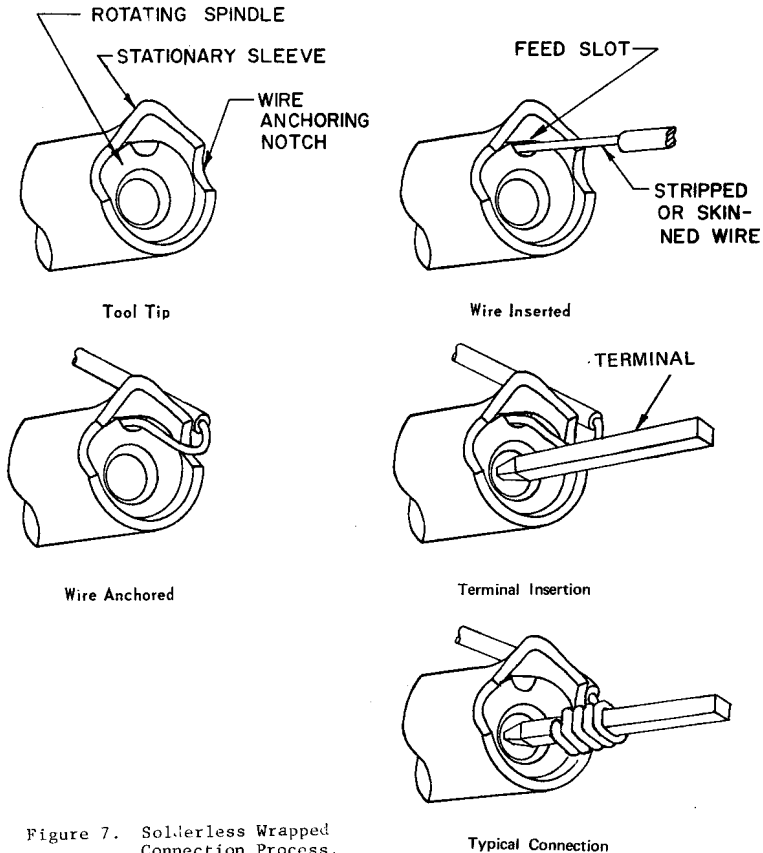

Figure 7. Solderless Wrapped Connection Process.
- a. Insert the skinned portion of the lead into the feed slot of the wrapping bit, care being taken to insure that no bare wire is showing. Bond the insulated portion of the lead into the anchoring notch as illustrated in Figure 7. Push the tool onto the terminal while holding the wire taut in the anchoring notch. Use of the left or right anchoring notch is determined by direction of approach, i.e., a lead dressed to the left of the terminal is placed in the left anchoring notch; if dressed to the right, it is placed in the right anchoring notch.